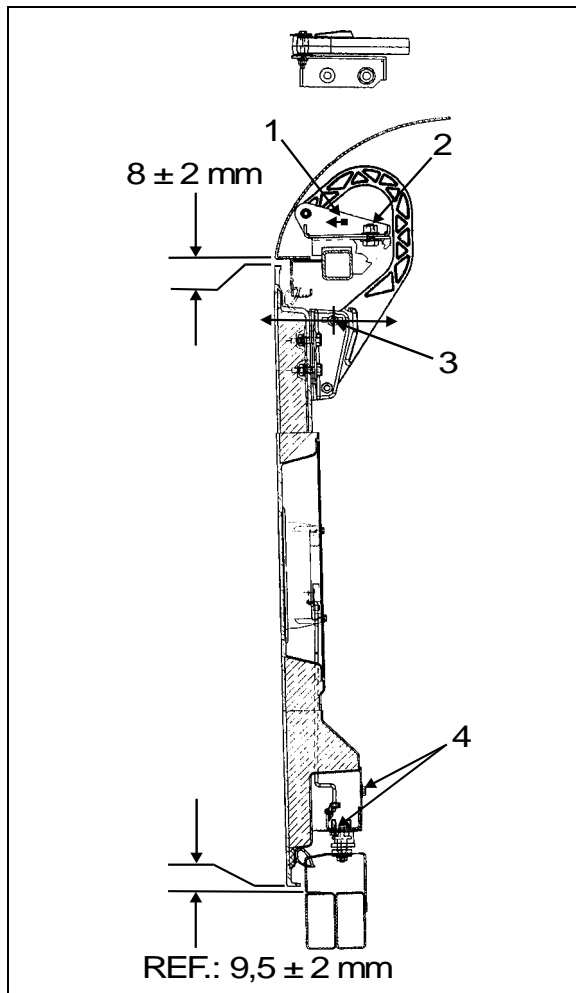

FIGURE 72: DOOR HINGE
2. Loosen nut (2, Fig. 72).
3. Move part (1, Fig. 72), as close as possible to exterior of coach, so as to have enough clearance for proper door opening.
4. Tighten nut (2, Fig. 72).
5. Loosen nut (3, Fig. 72). Hinge allows the door to be shifted "IN or OUT".
6. Adjust door panel to have the same gap space as neighboring panels or refer to figure 52 for specified gap space. Only if necessary, use the adjustment allowed by moving part 1, Fig. 72.